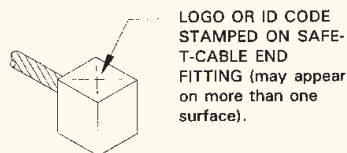

FIGURE 10: Safe-T-Cable® Identification Stamp
1.5. Safe-T-Cable® identification stamp: In applications where the user requires a logo or ID code to be a permanent part of the Safe-T-Cable® installation (for warranty or traceability), it shall be applied by the Safe-T-Cable® manufacturer to one or more surfaces of the square end fitting of the Safe-T-Cable®. Only impression stamping is permitted, no paint, ink or labels are acceptable (Figure 10).